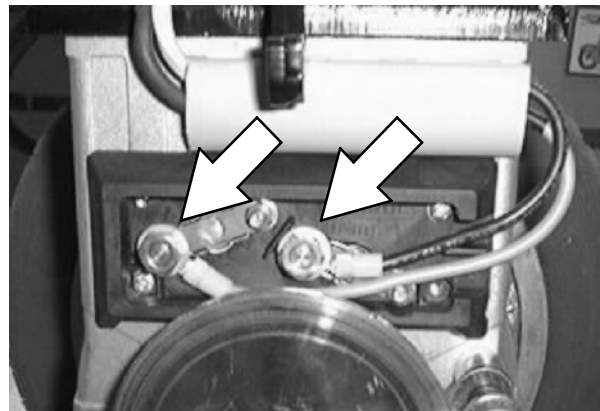

FIG. 6
6. Mark the locations of the wires connected to the drive assembly and then disconnect the wires from the assembly. Set aside all loose parts. Refer to Fig. 6.